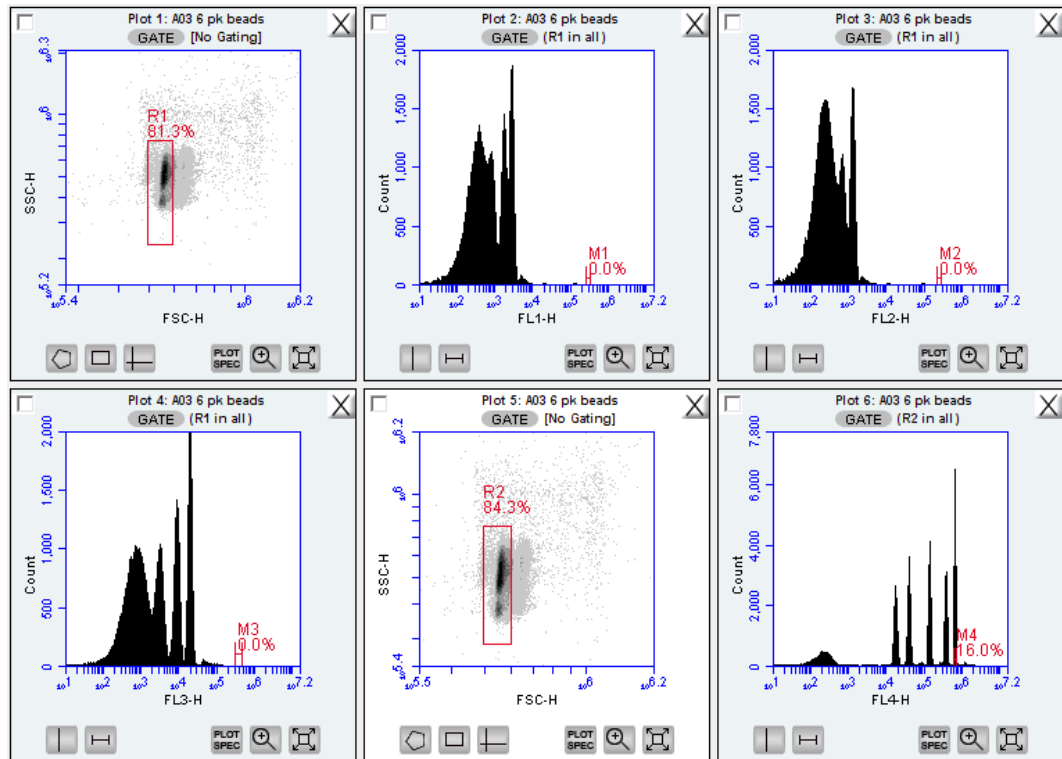

Figure 3-14. 6-Peak Validation Bead Data
- Adjust the pre-drawn region R2 in the 6-peak scatter plot FSC-H vs. SSC-H to encompass the main population (similar to the procedure for the 8-peak beads). This population should look like an exclamation point. The R2 region should encompass the entire exclamation point (Figure 3-14).
- Measure the CV of the top (brightest, far right) peak by adjusting the marker in the FL4-H plot so that it is placed tightly around the peak. See the plots in Figure 3-14 for an example of acceptable 6-peak bead data. Look for the following: